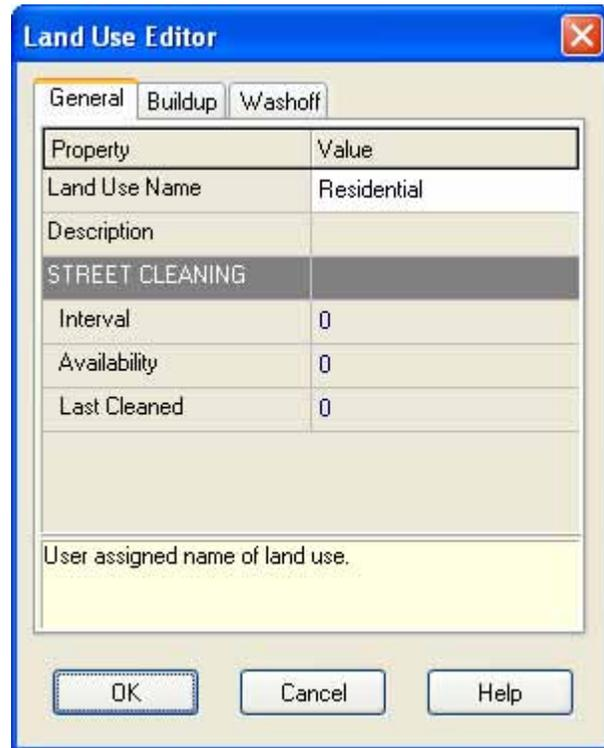

Figure 2-18. Land Use Editor dialog.
2. In the Land Use Editor dialog that appears (see Figure 2-18), enter Residential in the Name field and then click the OK button.